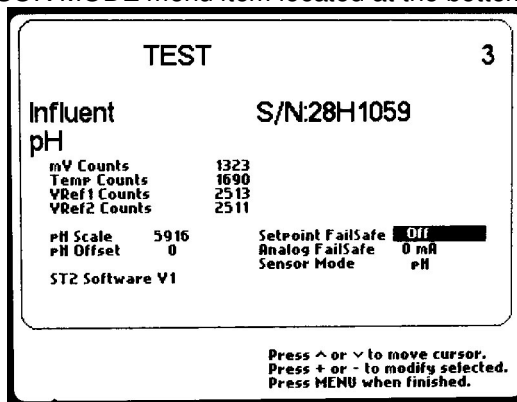

Figure 36 - pH/ORP Test Screen
3. From the pH/ORP TEST screen (Figure 36), press the down arrow key twice to highlight the SENSOR MODE menu item located at the bottom right of this screen.